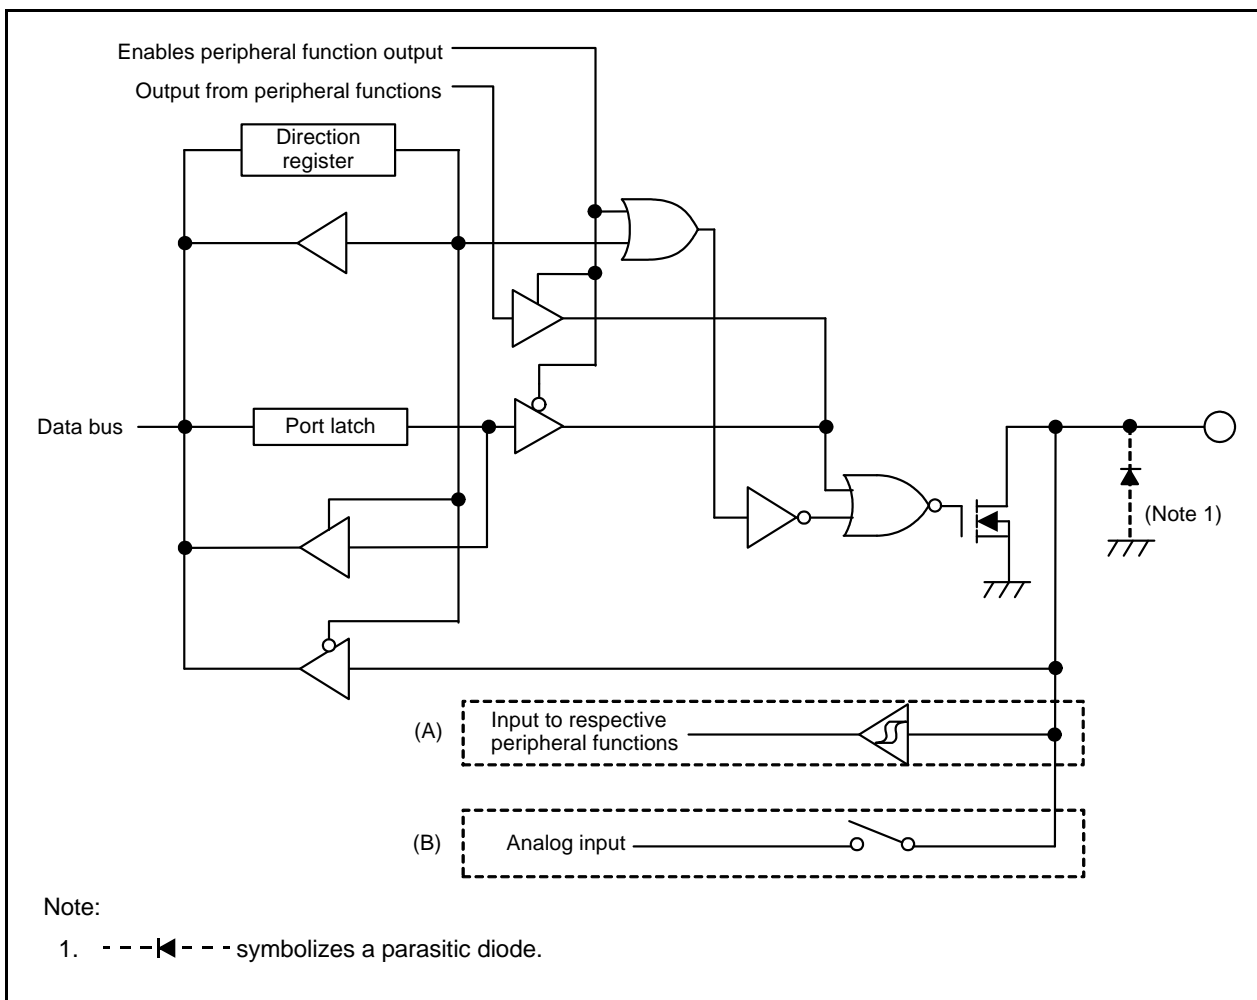

Figure 13.8 I/O Ports (N-channel Open Drain Output)
Peripheral function input (A) in Figure 13.8	Analog input (B) in Figure 13.8